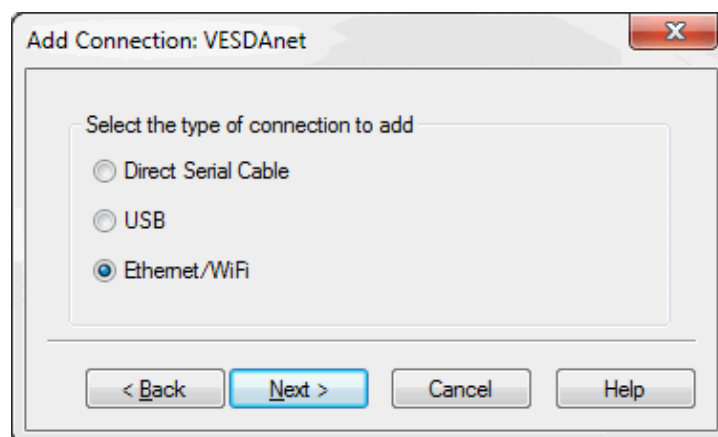

Figure 5-5: Select Ethernet
1. Select **Ethernet**, then select **Next** (Figure 5-5).